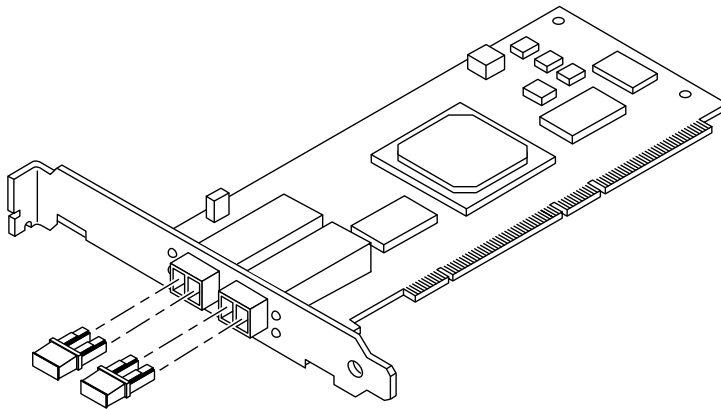

FIGURE 1-3 Sun StorEdge 2G FC PCI Dual Channel Network Adapter Dust Covers
1. Pull the two dust covers out of the 2x5 optical transceiver (OT) connectors (FIGURE 1-3).